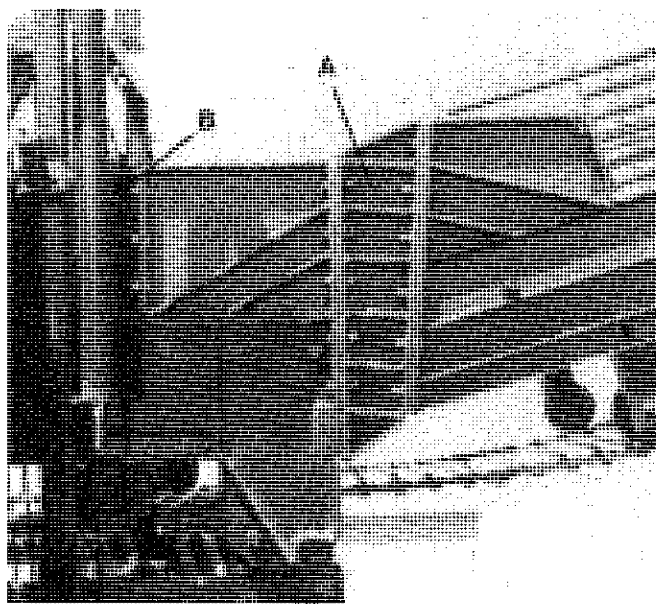

FIGURE 48 - TRUCK ELEVATOR ADJUSTMENT
The elevator also has two possible angle positions to adjust for the truck side height. To change angle of the truck elevator, rotate center bracket (A) 180 degrees to change height. With narrow end of bracket pointing up, the elevator is in the high position; down-low position (see figure 48).
The elevator has two (2) stops available to adjust the truck end location of the elevator. When using the bolt-on stop (B) (see figure 50, page 34), the filler plate (B) (figure 48) must be shifted to the left side of the retainer.